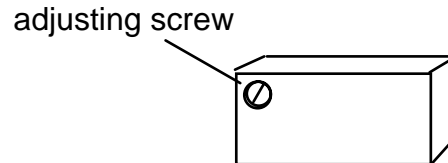

Figure 3-7. Potentiometer for setting gain
2. Find the four potentiometers for setting gain in a row along the middle right side of the main board. They are the four small blocks with a tiny screw protruding from the corner of each block. (See Figure 3-7). You adjust the tonnage by turning this screw.